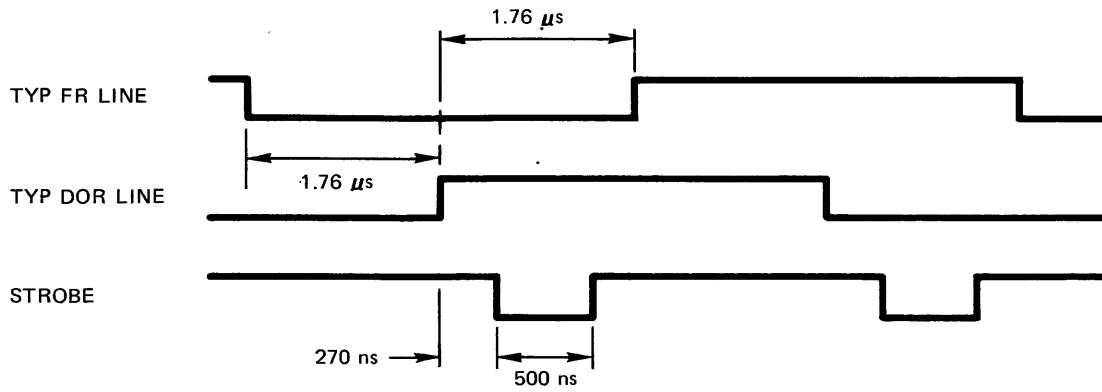

FIGURE 1
The timing for the channel lines involved in these transactions is shown in Figure 1, Appendix A.
3.4.3 Timing (Refer to Figures 1 through 5 in Appendix A.)